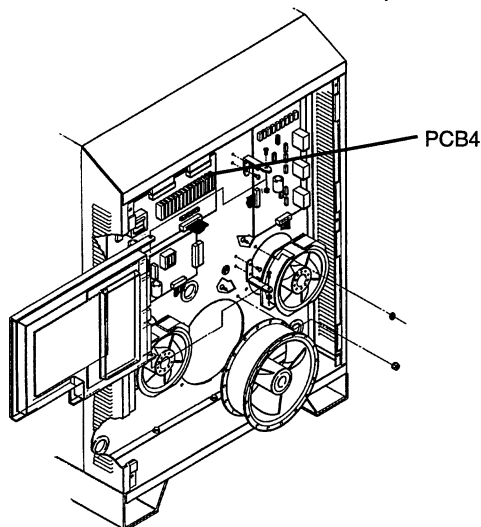

Figure 9 Location of PCB4
2. Find PCB4 relay board in the front of the HT2000 power supply. See Fig. 9.